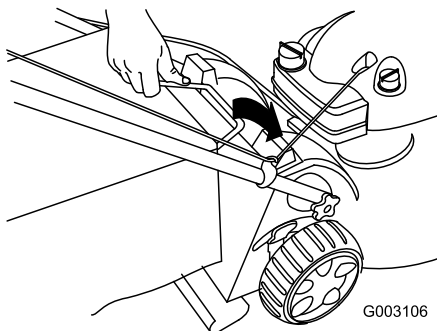

Figure 25
3. Insert the grass bag handle into the grooves at the top of the mower (Figure 25).